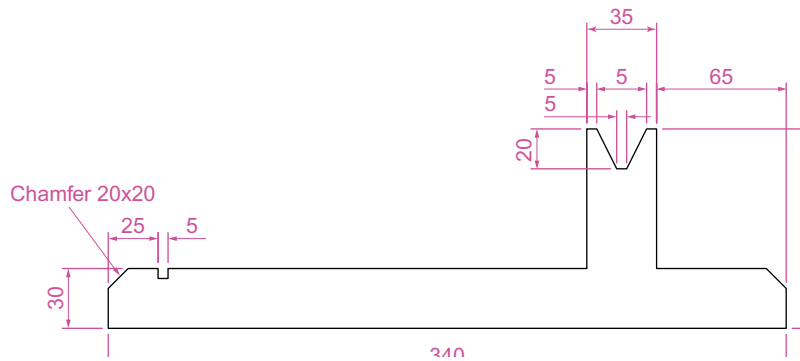
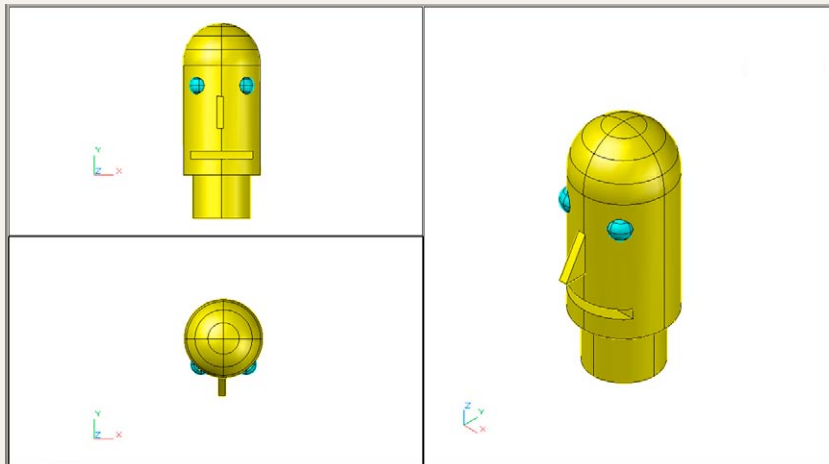

Fig. 13.12 Third example – outline for solid of revolution
Fig. 13.14 Exercise 1
3. In the **Front** viewport (top left-hand), construct a pline outline to the dimensions in Fig. 13.12.
- Using the **Cylinder**, **Box**, **Sphere**, **Wedge** and **Fillet** tools, together with the **Union** and **Subtract** tools and working to any sizes thought suitable, construct the 'head' as shown in the **Three: Right** viewport as shown in Fig. 13.12 (Fig. 13.14).